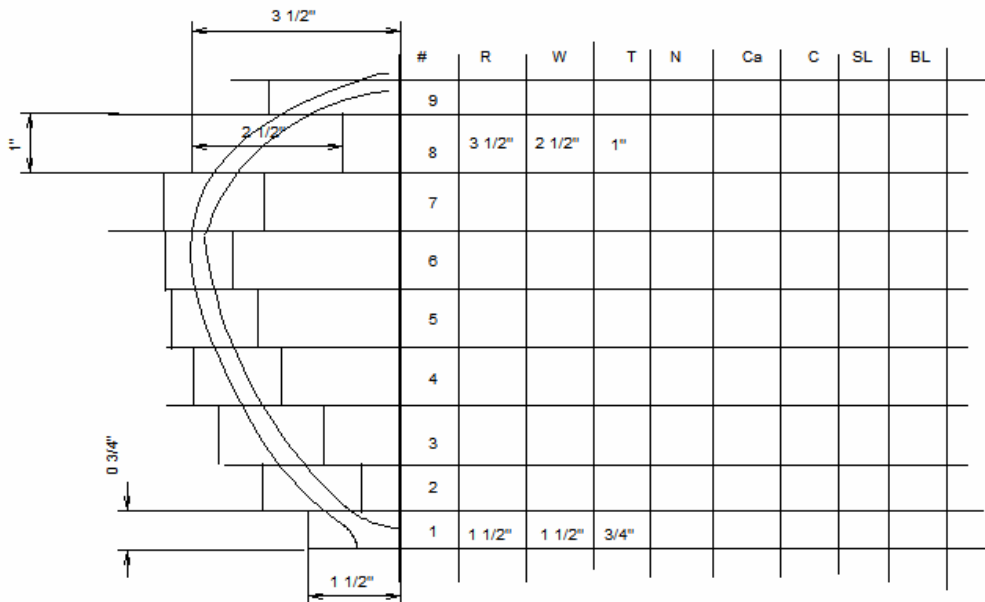

Figure 1. Sketch of left side of vessel with chart underway.
3. Decide what the width of the ring needs to be to ensure that the ring includes the outside wall and the inside wall of the intended shape. Draw in vertical lines to represent the inside and outside edges of the ring. See Figure 1.
4. Make a chart, as on figure 1, to include the design parameters of each ring.
5. Measure the distance of the outer ring edge to the center line and write it down for the radius (R). This radius is that of the ring at the center of the ring segments, not the ultimate radius of the piece.
6. Measure the distance from outer ring edge to the inner ring edge and write that down for the width (W).
7. Measure and record the thickness of each ring (T).